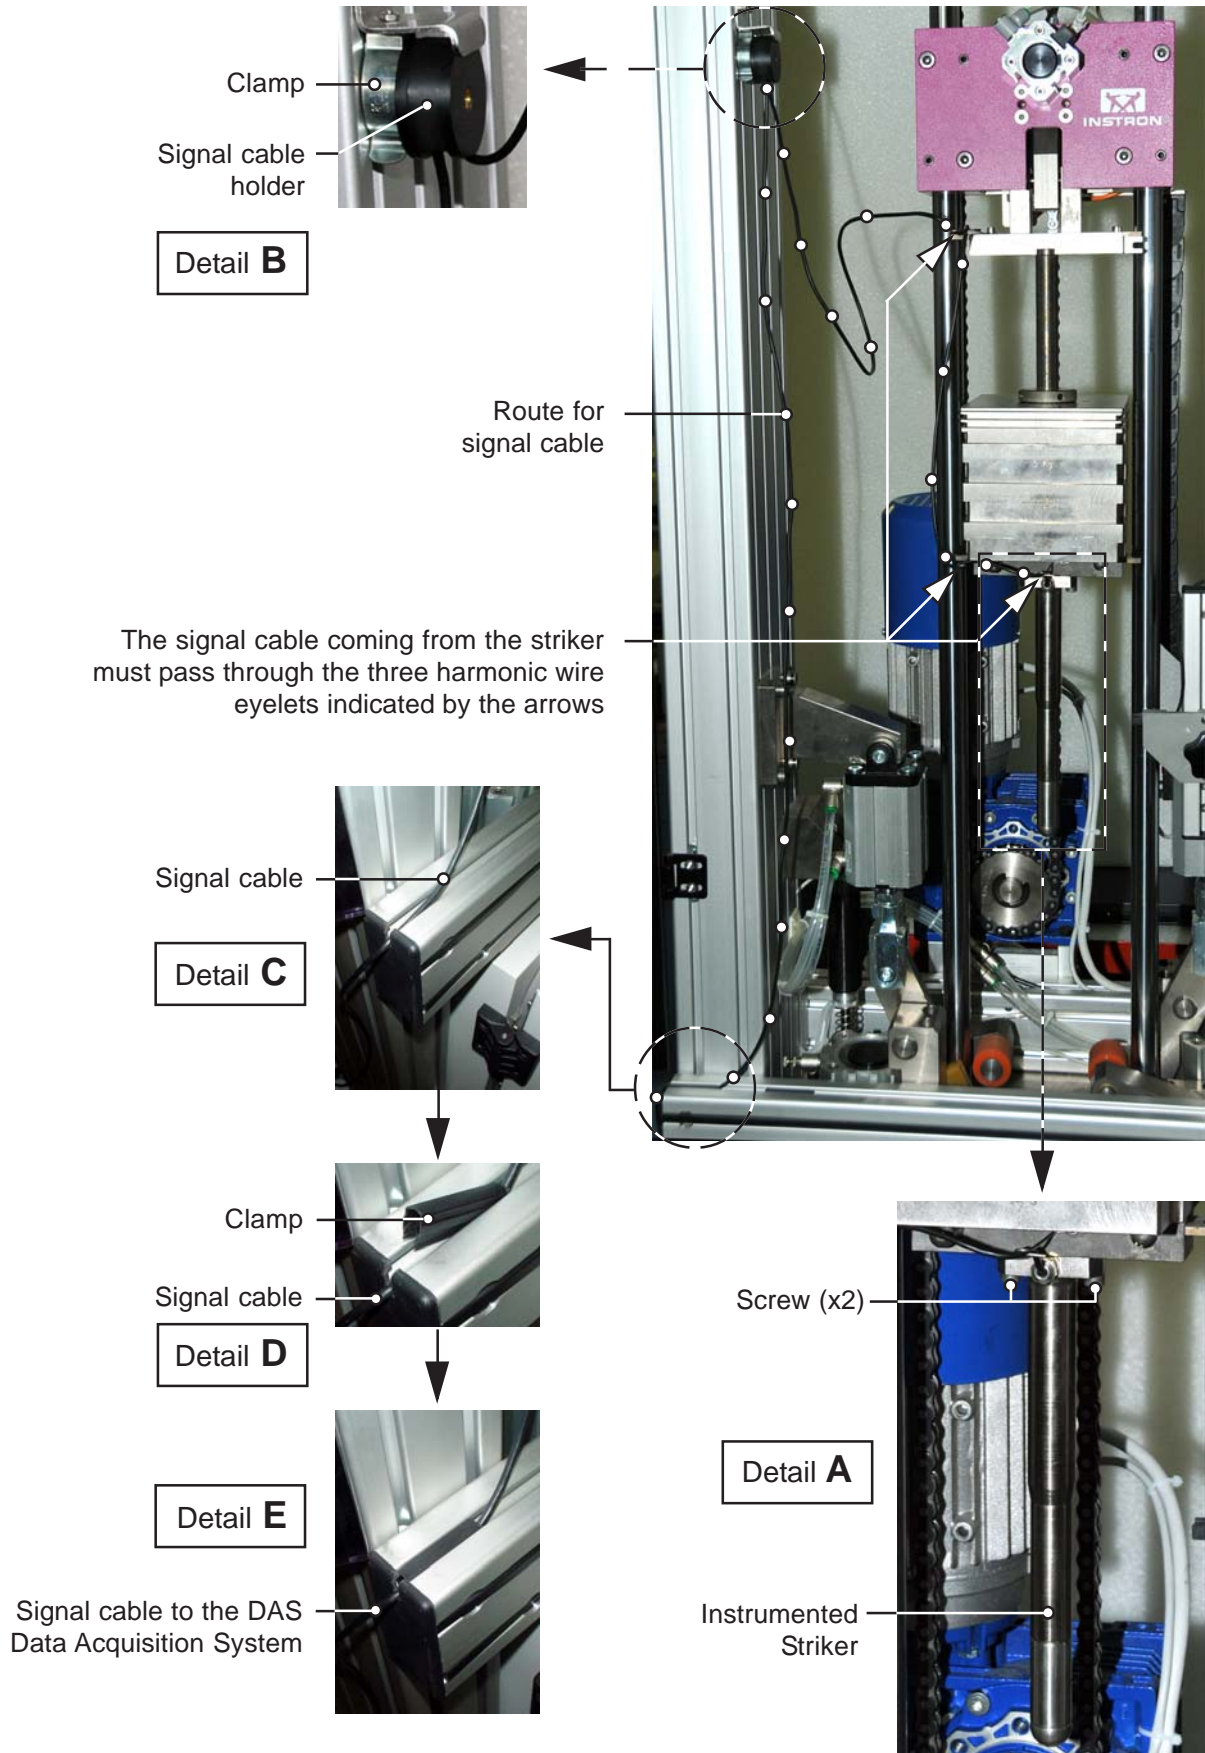

Fig. 2 - Instrumented striker installed on the instrument
- ▶ c) Disengage the clamp (Fig. 2, detail D) and remove the cable from the slot.
- ▶ d) Disengage the signal cable holder from the clamp, pulling it downward (Fig. 2, detail B).
- ▶ e) Disengage the striker signal cable from the three harmonic wire eyelets (Fig. 2) (these parts are attached to the striker holder).
- ▶ b) Place the instrumented striker against the striker holder (Fig. 2, detail A) centering the existing pins and making sure that the signal cable is facing to the front of the instrument (check not required when install a striker not instrumented).
- ▶ d) Insert the signal cable in the three harmonic wire eyelets (Fig. 2).
- ▶ e) Extend the signal cable following the route shown in Fig. 2 and fasten the cable holder with the clamp (Fig. 2, detail B) pushing it upward.
- ▶ f) Continue with the signal cable downward and insert it in the slot outside (Fig. 2, detail C) on the left side of the turret.
- ▶ g) Fasten the signal cable to the structure using the clamp (Fig. 2, detail D).